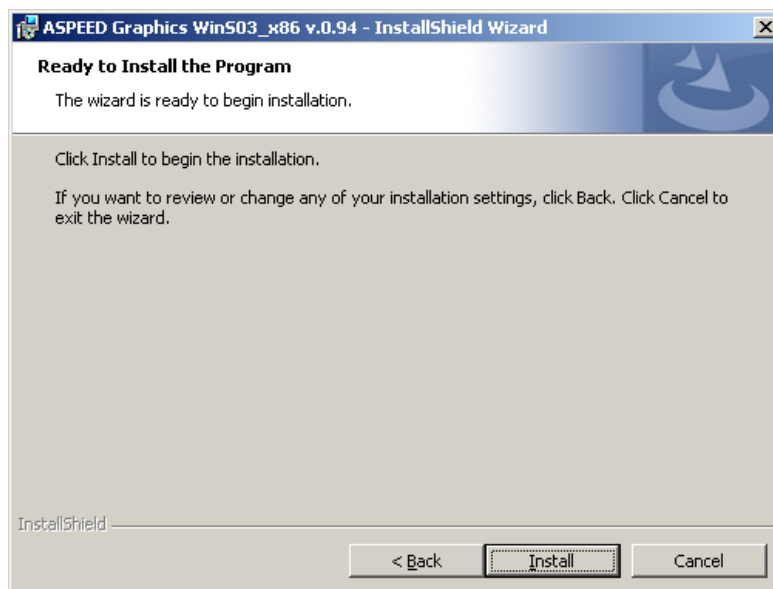

Figure 6-10: Graphics Driver License Agreement
Step 6: The **Ready to Install the Program** screen in Figure 6-10 appears.